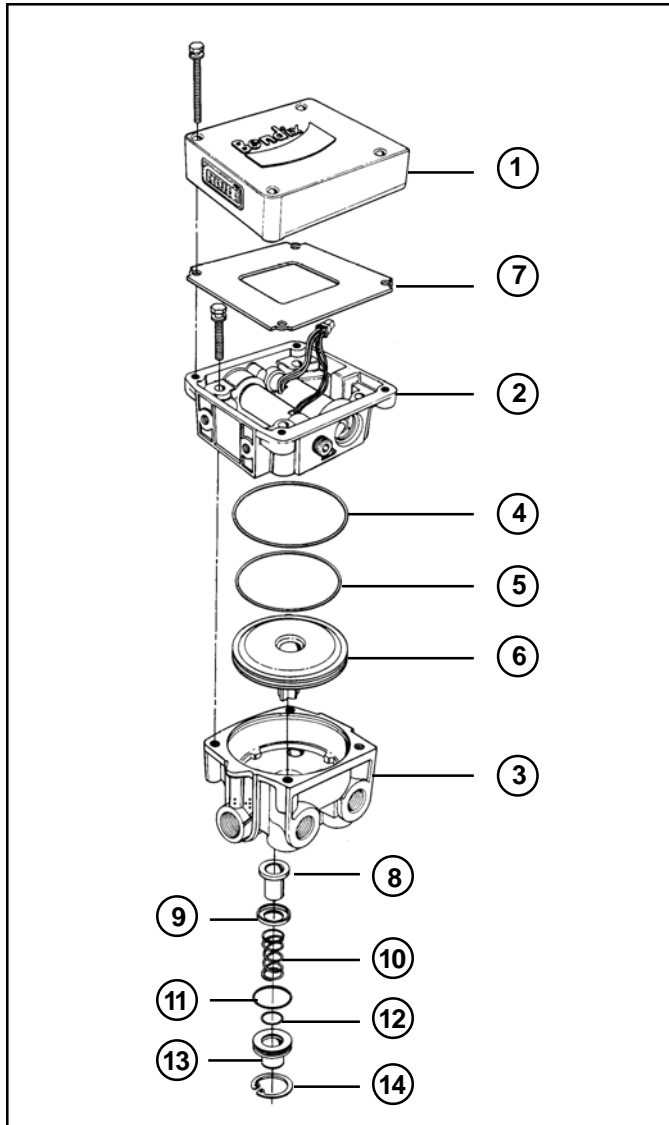

FIGURE 9 - EXPLODED VIEW
ASSEMBLY—REFER TO FIG. 9
2. Install spring seat (9) onto the inlet/exhaust valve (8) so that it covers the rubber seat of the inlet/exhaust valve. Place the inlet/exhaust valve, large diameter first, into the M-12™ modulator's bottom bore.
3. Install spring (10) over the barrel of the inlet/exhaust valve (8) so that one end of the spring rests on the spring seat (9).
4. Install the o-rings (11 & 12) into the respective grooves of the O.D. and I.D. of the exhaust assembly (13). Place the large diameter of the exhaust assembly against the spring (10) and compress the spring until the exhaust assembly enters the bore of the body and the o-ring (11) seals against the wall of the bore.
5. Depress the exhaust assembly into the bore until it exposes the groove for the snap ring (14). Install snap ring (14) into its groove. Make sure it is fully seated.
6. Install o-ring (5) into its groove in the piston (6). Install piston (6) into the M-12™ modulator body. The piston stem fits into the small hole in the center of the body.
7. Install o-ring (4) onto the protrusion on the bottom of the M-12™ modulator solenoid assembly. Install the solenoid assembly (2) onto the valve body. The solenoid assembly will fit on the M-12™ modulator body in any of four orientations, 90 degrees apart. However, if clearance is a problem, make sure the control port is not directly above the valve's supply port, which will be nipple mounted to a reservoir. Secure the solenoid assembly to the valve body with the four 1/2" bolts. Torque the bolts to 120 150 in. lbs.
8. Install gasket (7) onto the EC-12™ controller. Install the EC-12™ controller (1) as shown in Figure 9 by plugging the electrical connector from the solenoid assembly into the socket in the bottom of the controller. Press in until lock tab engages. Ensure engagement by pulling the connector lightly. Place the controller onto the solenoid assembly and secure with the four 1/2" bolts and lock washers. Torque to 30 60 in. lbs.